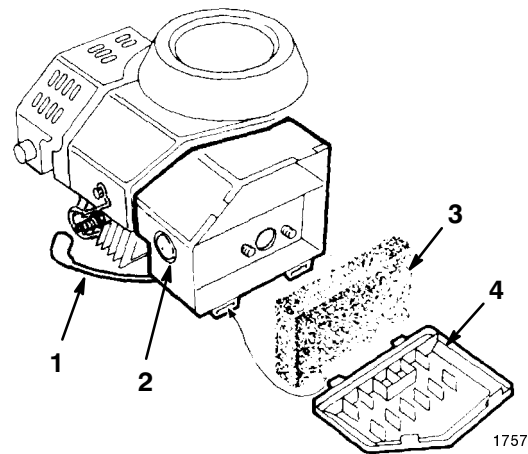

Figure 6
1. Insert the bottom tabs of the air cleaner cover into the slots (Fig. 6).
2. Rotate the cover upward and snap it into place (Fig. 6).